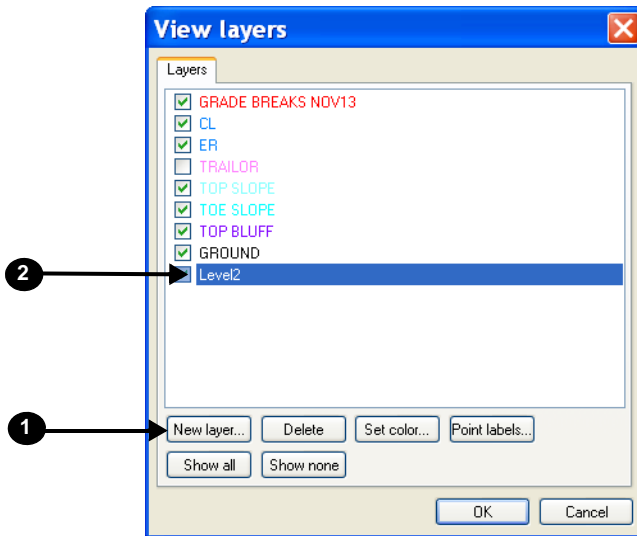

Figure 2-22. Add New Layer to 3D Project
1. On the **View layers** dialog box (Figure 2-22 on page 2-18), press **New layer**.
1. On the **View layers** dialog box (Figure 2-22 on page 2-18), click the desired layer, then press **Point labels**.